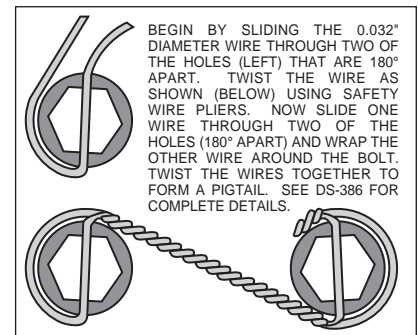

Figure 2. Safety Wire Diagram
- Install wheel studs (1) into the hub (2). Torque to 77 ft-lb. **NOTE:** There are two five lug patterns in the hub (5 x 4.50 and 5 x 4.75). Make sure of the correct hole pattern for the correct wheel application before installing studs into hub.
- Pack the large inner bearing cone (3) with high temperature disc brake bearing grease (available from your local auto parts store) and install into the backside of the hub (2).
- Install the grease seal (4) by pressing into the backside of the hub (2).
- Attach rotor adapter plate (5) to rotor (6) using bolts (7). Apply red *Loctite*® 271 to the threads and torque bolts (7) to 25 ft-lb. For an added measure of security, the bolts may be safety wired using standard 0.032 inch diameter stainless steel safety wire as shown in Figure 2. Please refer to Wilwood's data sheet DS-386 (available at www.wilwood.com/Pdf/DataSheets/ds386.pdf) for complete safety wire installation instructions. **NOTE:** Dished side of adapter plate (5) should face hub (2). The counterbored side of the steel rotor (6) should face away from the adapter plate (5).